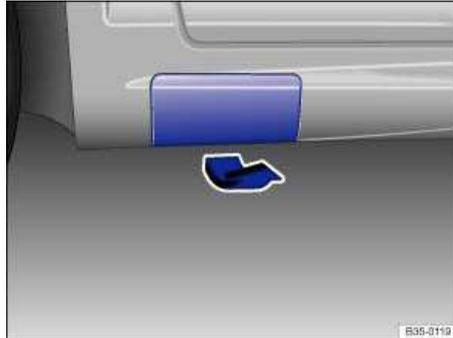
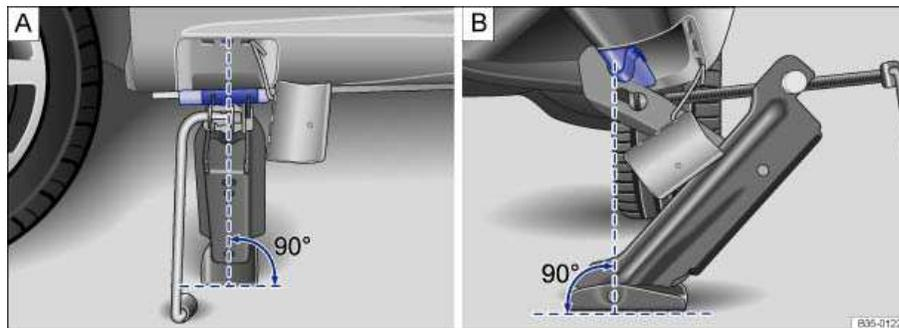

Fig. 193 Vehicle jack lift point in the side sill: Fold the cover up.
Fig. 194 Jack in position at the left rear lift point.
The jack must be positioned at one of the 4 lift points located behind covers on the vehicle frame. The covers must be open ⇒ fig. 193 to position the jack properly ⇒ fig. 194. You must use the lift point closest to the wheel being changed.
8. Remove the cover panel in the side sill. To do so, pull forcefully but carefully in the direction of the arrow ⇒ fig. 193. Secure the cover panel with the retaining strap.
10. Position the jack so that its base is directly underneath the lift point ⇒ fig. 194, making sure that the entire base of the jack rests securely on the ground.
11. Align the jack and wind up the jack claw at the same time, until the claw cradles the vertical rib underneath the vehicle ⇒ fig. 194.
- Position the jack only at the described vehicle lift points. Before you raise your vehicle, always make sure the jack claw properly grips the vertical rib under the sill so that the jack does not slip off when you are raising the vehicle ⇒ fig. 194.**